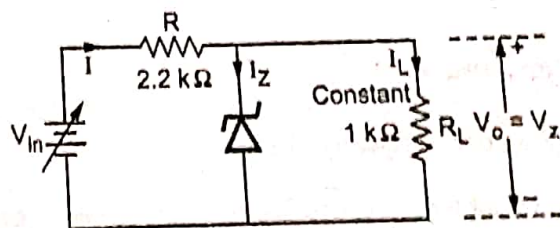

Fig. Q.29.1
Q.29 For a zener regulator shown in the Fig. Q.29.1, calculate the range of input voltage for which output will remain constant.